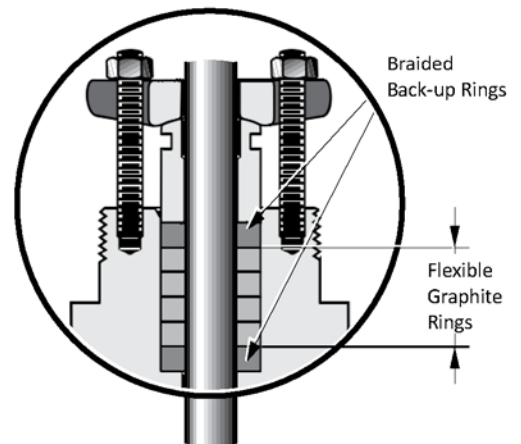

Figure 5 - Flexible graphite rings arrangement (Option)
7.3.2 Flexible graphite rings (optional-See Figure 5)
E. Replace new packing set (6); first assemble a back- up ring (Graphite Filament Yarn braided ring), then the flexible graphite rings (smooth rings), and finally another braided back-up ring (refer to Figure 5).